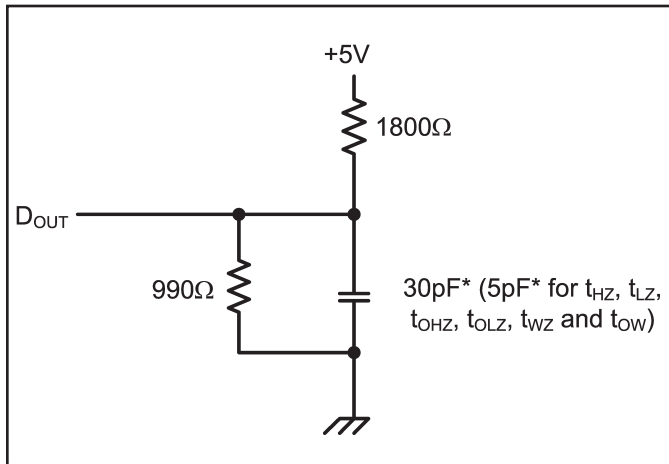

Figure 1. Output Load
- 8. Transition is measured  $\pm 200$  mV from steady state voltage prior to change, with loading as specified in Figure 1. This parameter is sampled and not 100% tested.
| Output Load                   | See Figures 1 and 2 |